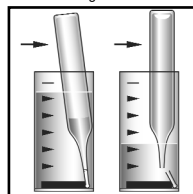

Figure 3
For CHEMetrics photometers, follow the **Setup and Measurement Procedures** in the operator's manual. For spectrophotometers, set the wavelength to 430 nm. A sealed ZERO ampoule is supplied in this kit for zeroing when the sample is colorless and not turbid. For improved accuracy with colored or turbid samples, Sample Zeroing Accessory Pack, Cat. # A-0504 is recommended. Using the sample cup, snap the tip of the A-0504 ampoule in the sample (see figure 3 below). Invert the ampoule to mix. Dry the ampoule and use it in place of the supplied ZERO ampoule to zero the instrument.
3. Place the Vacu-vial ampoule, tip first, into the sample cup. Snap the tip. The ampoule will fill leaving a bubble for mixing (fig. 3).